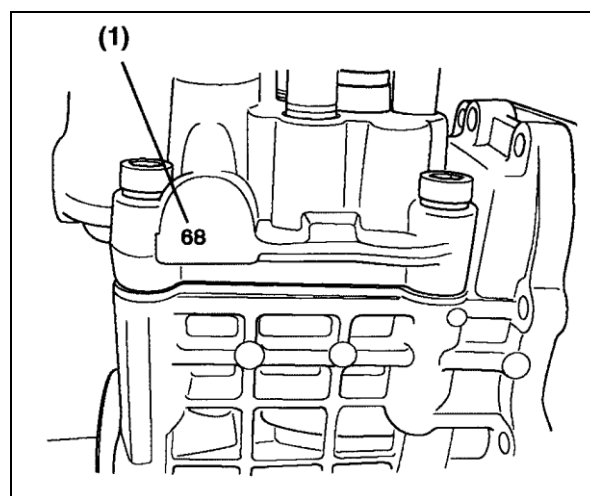

Figure 18
- Calculate the difference between the timing index numbers (Figure 18, (1)) of the fuel injection pump that you removed and the replacement fuel injection pump. See Calculation Example below.